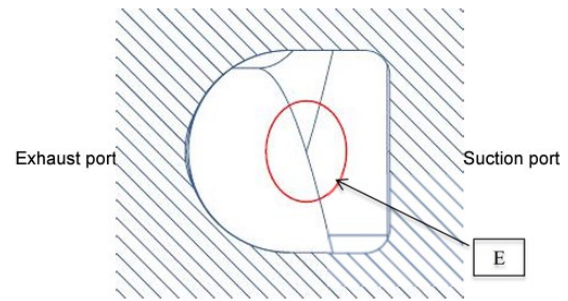

Figure 8
***Point "E" in Figure 8 is referenced in instructions and troubleshooting guide.***